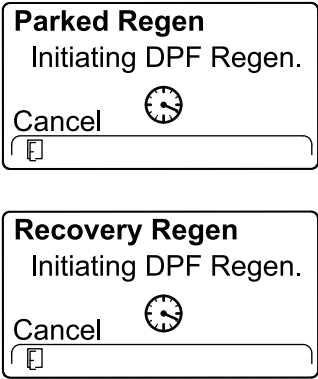

Figure 60
- The InfoCenter displays the INITIATING DPF REGEN message (Figure 60).